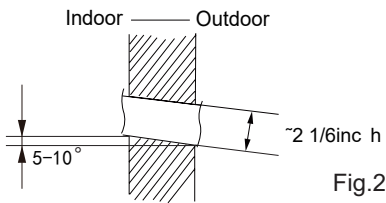

Fig.2
(2) Open a piping hole with the diameter of $\Phi 2 \frac{1}{6}$ inch on the selected outlet pipe position. In order to drain smoothly, slant the piping hole on the wall slightly downward to the outdoor side with the gradient of $5-10^\circ$.(As show in Fig.2)